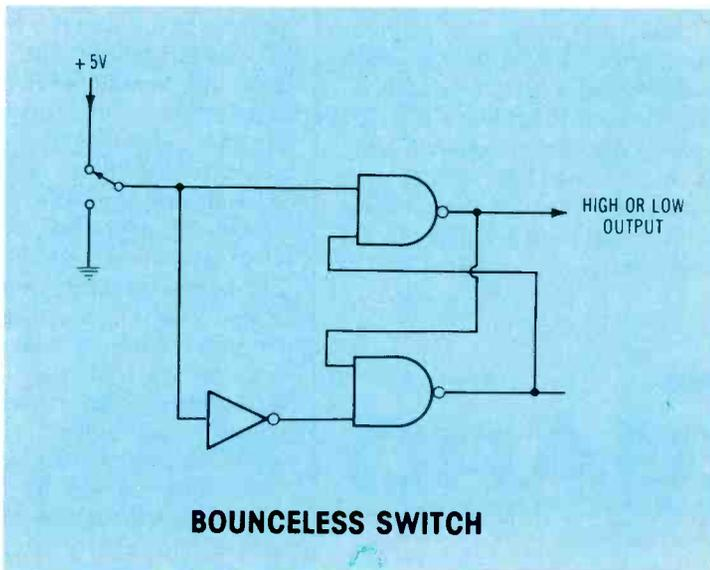

Figure 6 Build this bounceless switch (actually a D-latch) to advance the counting circuit manually.
To obtain single logic changes, a bounceless switch (Figure 6) replaces the clock signal.
- Construct the bounceless switch of Figure 6.
Figure 6 Many head wheels are operated at a slightly excessive speed, then a magnetic brake slows the rotation speed and keeps it constant. The pole pieces and rotor strongly resemble a simple motor, but this brake operates by changing the eddy-current drag.